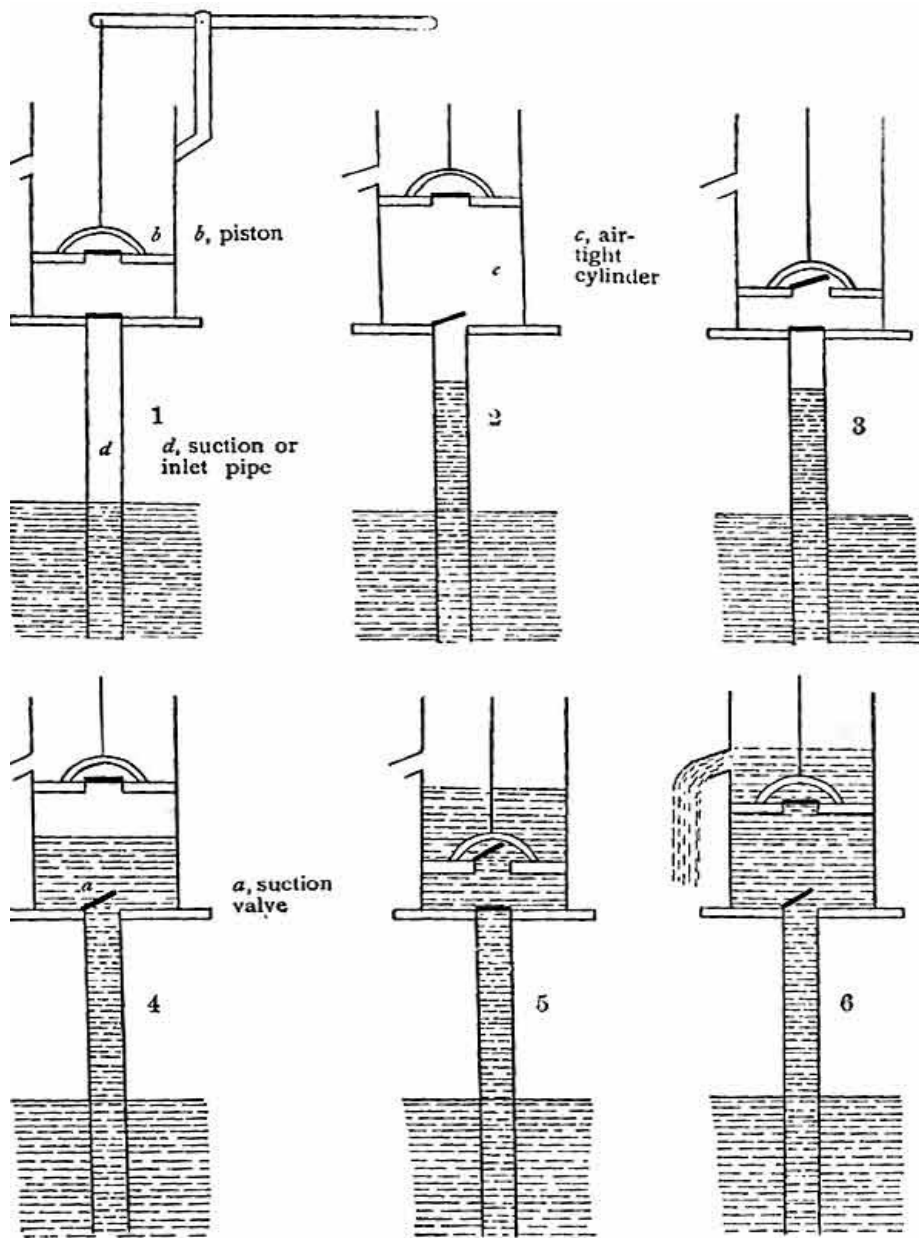

FIG. 133. Diagram of the process of pumping.
In order to understand the action of a pump, we will suppose that no water is in the pump, and we will pump until a stream issues from the spout. The various stages are represented diagrammatically by Figure 133. In (1) the entire pump is empty of water but full of air at atmospheric pressure, and both valves are closed. In (2) the plunger is being raised and is lifting the column of air that rests on it. The air and water in the inlet pipe, being thus partially relieved of downward pressure, are pushed up by the atmospheric pressure on the surface of the water in the well. When the piston moves downward as in (3), the valve in the pipe closes by its own weight, and the air in the cylinder escapes through the valve in the plunger. In (4) the piston is again rising, repeating the process of (2). In (5) the process of (3) is being repeated, but water instead of air is escaping through the valve in the plunger. In (6) the process of (2) is being repeated, but the water has reached the spout and is flowing out.